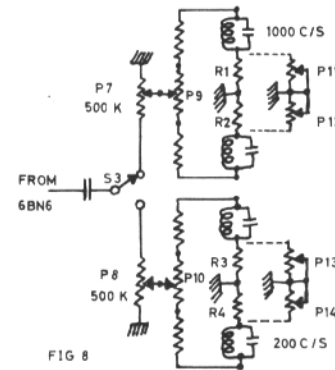

FIG 8
Two switchable discris (S3). One for total deviation of 1.000 cps and a second for 200 cps (fig. 8). The only added part is P7 and P8, which controls the signal and serves as calibrators.
- 2- Replace momentarily R1 and R2 by trimpots of 500 ohms, P11 and P12 (fig. 8)
- VTVM on output of detection (DC)